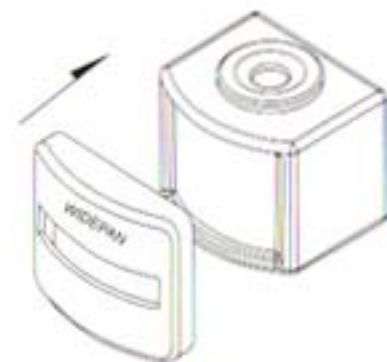

Fig 2
3. Apply Viewfinder Mask on Viewfinder as shown in Fig.2.